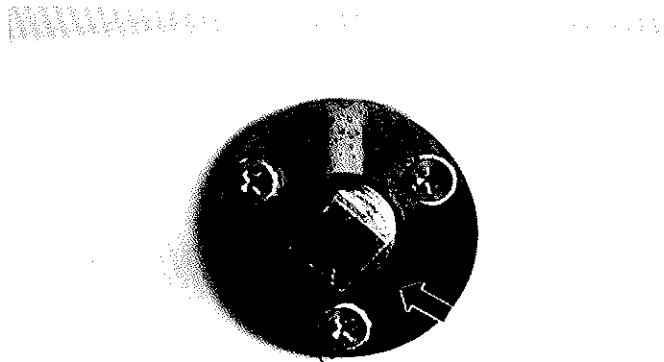

Figure 25
2. Install the hull drain plug. See figure 25.